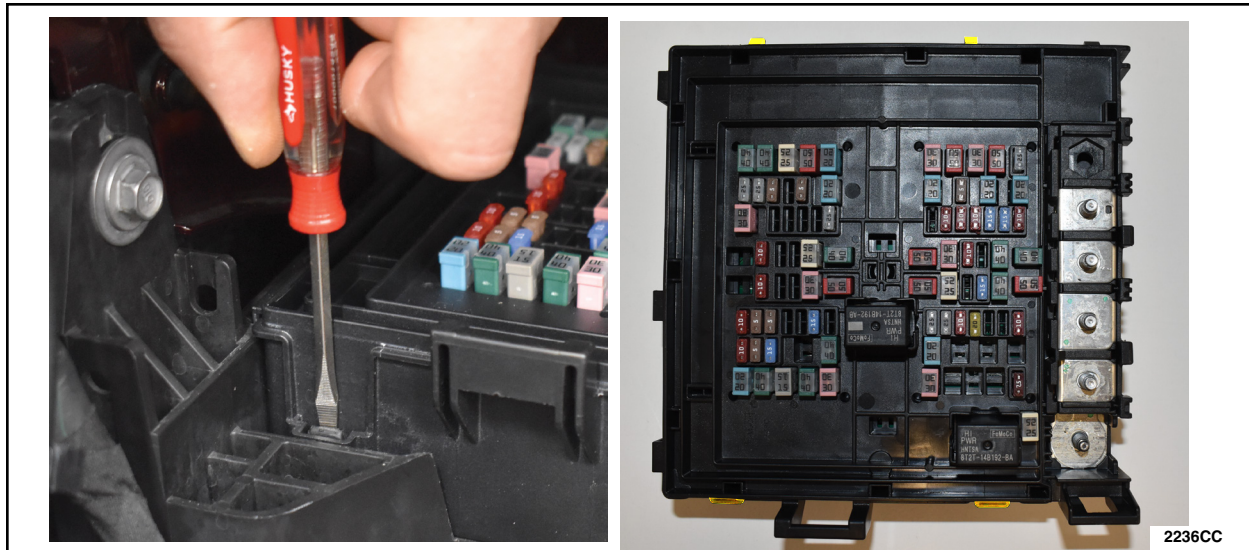

FIGURE 9
9. Separate the upper and lower BJB housings from the bottom cover. There are 4 clips that fasten these two parts together, two in the front and two in the rear. It is easiest to release these tabs with a small screwdriver. See Figure 9.